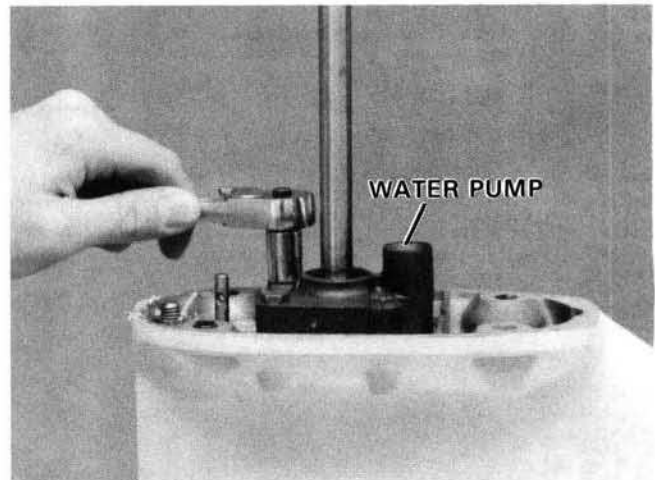

Figure 13. Securing Water Pump.
4. Apply sealant to threads of screws, Special Tool No. T 8983. Secure pump. Figure 13.